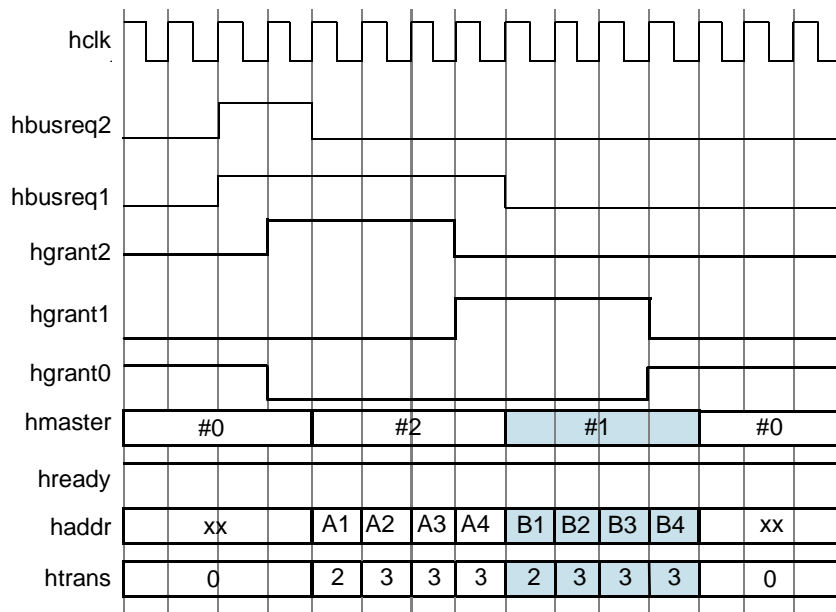

Figure 4: Bursts with Specified Length
Figure 4 shows the timing for fixed-length bursts with multiple masters requesting ownership. When masters have different priorities, the bus ownership is highest down to lowest. When masters have equal priorities, the bus ownership is random.
- Bursts with specified length (Figure 4 on page 30)